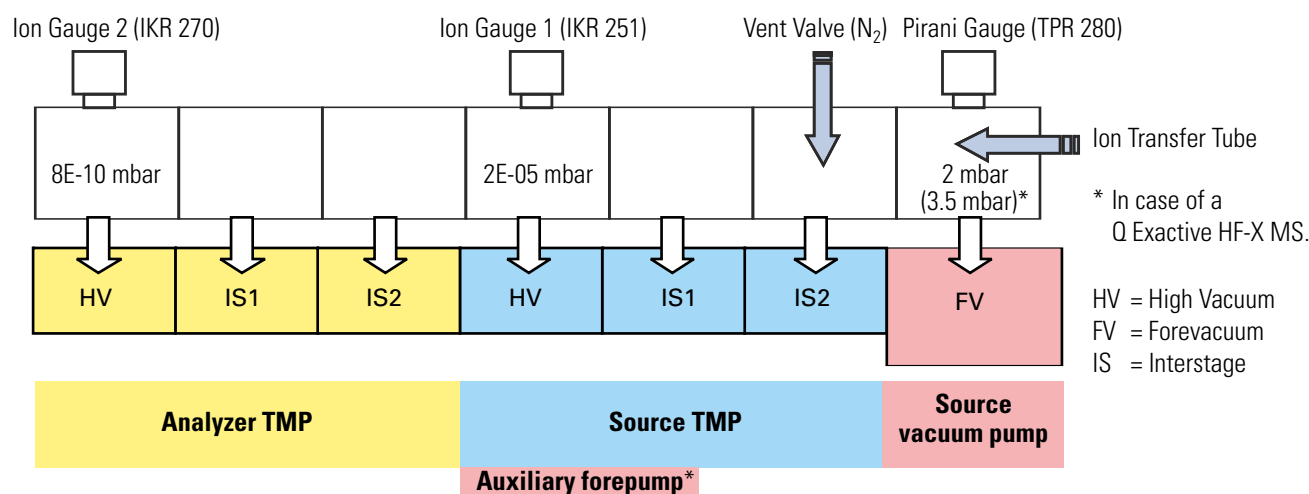
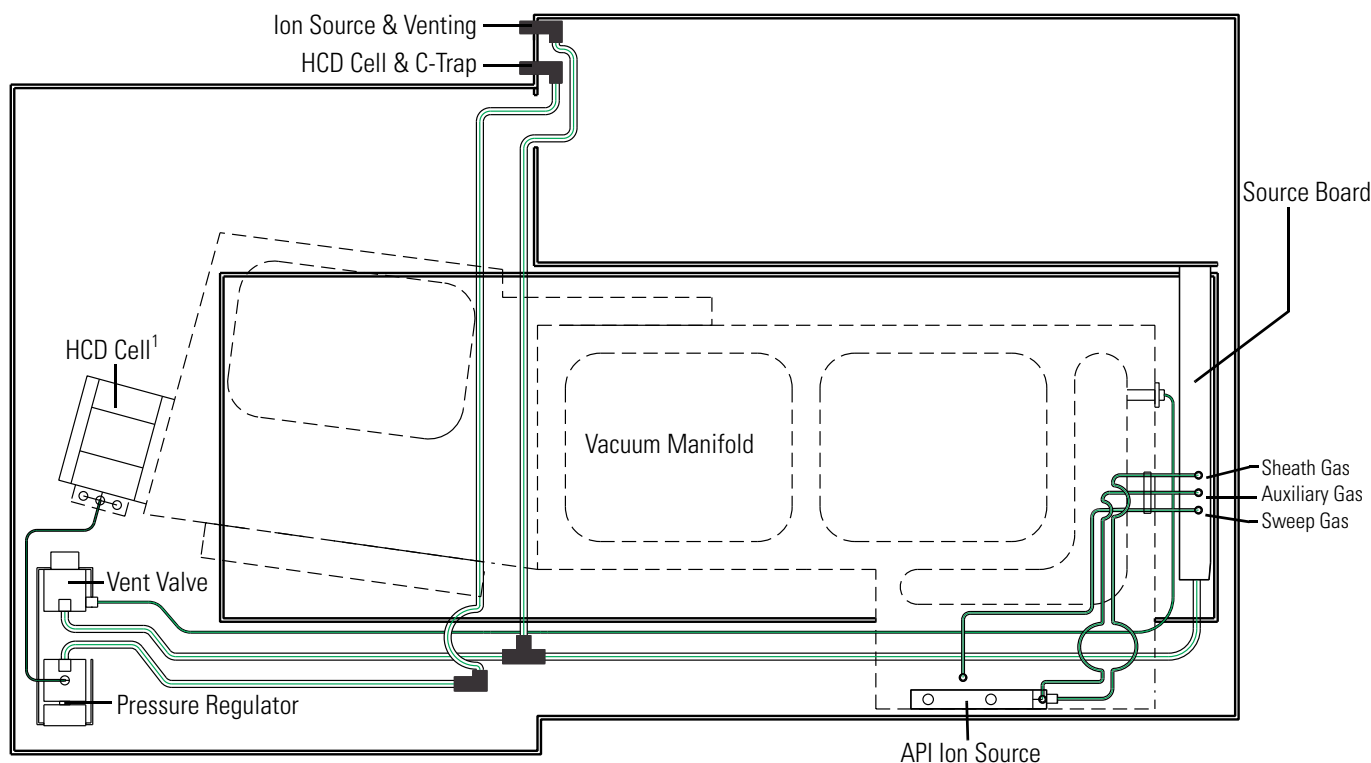

Figure 3-25. Schematic of vacuum system in Exactive Series MS
Figure 3-28. Schematic of gas supply
The vacuum manifold encloses the ion source interface, ion guides, C-Trap, and Orbitrap analyzer. The vacuum manifold consists of thick-walled aluminum chambers with machined flanges on the front, sides, and bottom, and various electrical feedthroughs and gas inlets. The vacuum manifold is divided into three chambers. The region inside the first chamber, called the S-lens region or funnel region, is evacuated by a rotary-vane pump (source vacuum pump). The region inside the second chamber, called the source chamber, is evacuated by a turbomolecular pump (source TMP). The region inside the third chamber, called the analyzer chamber, is evacuated by another turbomolecular pump (analyzer TMP). Figure 3-25 shows a schematic overview of the vacuum system, Table 3-9 shows the vacuum regions of the mass spectrometer.
The vacuum in the source chamber is created by a three-stage split flow TMP (SplitFlow 310, manufacturer: Pfeiffer Vacuum). The TMP mounts onto the bottom of the vacuum manifold. The source TMP has three pumping inlets (see Figure 3-25 on page 3-38):
The vacuum in the analyzer chamber is created by a second three-stage split flow TMP (TURBOVAC 250i, manufacturer: Oerlikon Leybold Vacuum or SplitFlow 200, manufacturer: Pfeiffer Vacuum¹). The pump mounts onto the bottom of the vacuum manifold. The analyzer TMP has three pumping inlets (see Figure 3-25 on page 3-38):
The vacuum manifold is vented when external power is removed from the instrument. (Power is removed from the instrument by a power failure or by placing the main power circuit breaker in the Off (O) position.) Power is provided to the vent valve for a short time after the external power is removed. If external power is not restored to the instrument in this time, power to the vent valve solenoid is shut off. When power to the vent valve solenoid is shut off, the vent valve opens and the manifold is vented with nitrogen. See Figure 3-25 on page 3-38 and Figure 3-28 on page 3-45. The vent valve closes after power is restored to the instrument.
Exactive Series mass spectrometers require high-purity ($\geq 99\%$) nitrogen for the API source gases (sheath/auxiliary/sweep gas), for the collision gas (bath gas) of the C-Trap, and for the collision gas for the HCD cell (if present¹). Nitrogen is also used to vent the vacuum manifold with the vent valve if the system is shut down. The required pressure is 800 ± 30 kPa (8 ± 0.3 bar, 116 ± 4 psi). The vented vacuum manifold is protected against overpressure by pressure relief valves. Figure 3-28 shows a schematic of the gas supply in the instrument.
If you use only one gas, the gas that comes from the gas supply in the laboratory enters the instrument through a Y-piece that is connected to both gas ports. If you use two gases, the Y-piece is not used. See Figure 3-28.